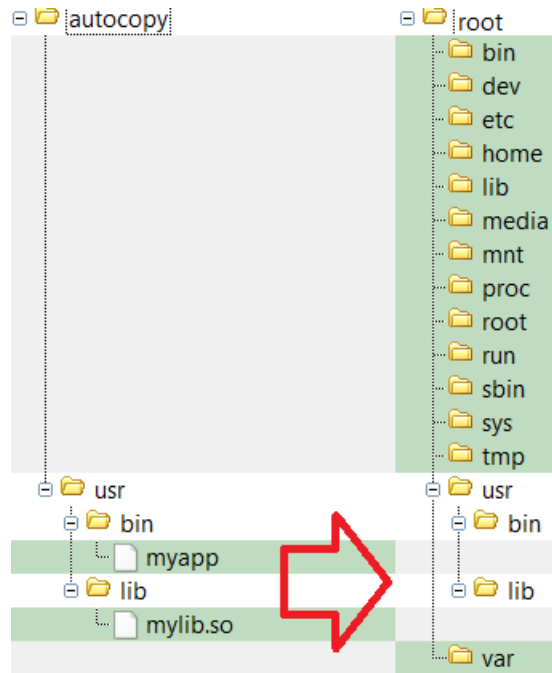

Figure 4: Automatic transfer process from storage medium (left hand) to the targets root file system (right hand) after plugging the storage
▶ Figure 4] illustrates what happens in background. The files are properly transferred to the target.